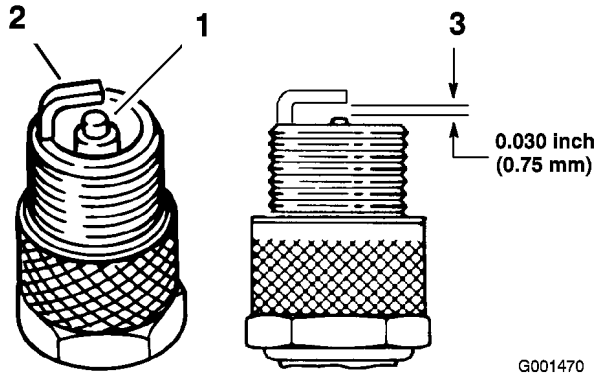

Figure 36
1. Look at the center of the spark plugs (Figure 36). If you see light brown or gray on the insulator, the engine is operating properly. A black coating on the insulator usually means that the air cleaner is dirty.
2. Check the gap between the center and side electrodes (Figure 36). Bend the side electrode (Figure 36) if the gap is not correct.
3. Connect the wires to the spark plugs (Figure 36).